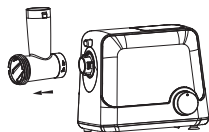

Рис. 9
- After finishing, switch the meat grinder off by setting the operation mode switch (1) to the «OFF» position and unplug the power cord from the mains socket, then proceed to disassemble it.
- Unscrew the nut (11), remove the attachment (12), the plate (10), the crossed blade (9) and take the screw (8) out.
- To remove the meat grinder head (7), press the lock button (3), turn the meat grinder head (7) clockwise and remove it (fig. 9).